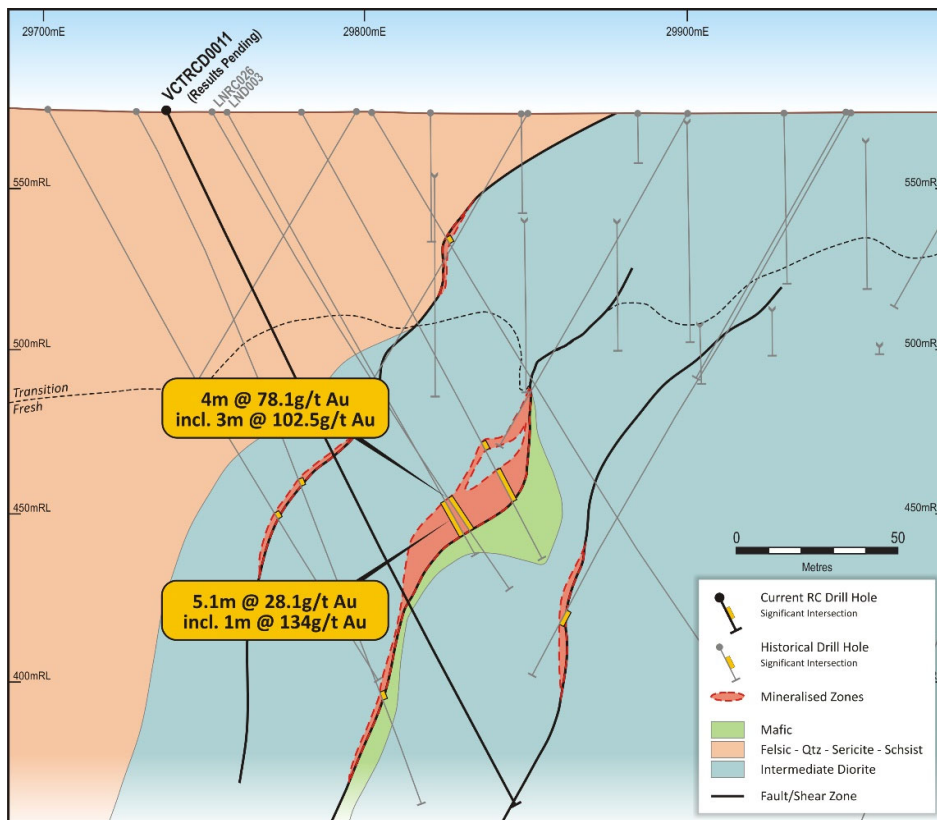

Figure 4: Ned's creek, Contessa Prospect, cross section 29,760mN
These significant intersections are from the first four of eight reverse circulation (RC) and diamond drillholes completed in the Contessa Corridor on the Ned's Creek JV. Results are pending from the remaining four pre-collared diamond drillholes. These include three diamond holes that tested down-plunge of previously intersected gold mineralisation at Contessa that included the following high-grade intersections (see cross section 29,760mN, Figure 4):
In addition, results are pending from a further three pre-collared diamond drillholes that tested down-plunge extensions of previously intersected high-grade gold mineralisation (see cross section 29,760mN, Figure 4) that included: